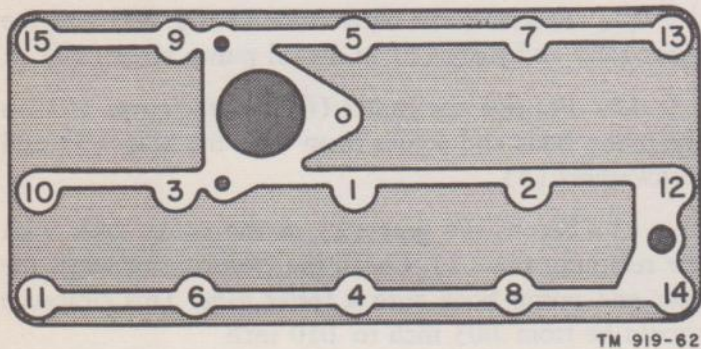

Figure 62. Cylinder head nut tightening sequence.
(1) Position the cylinder head gasket (11) on the block without using sealer or other compound.
(2) Place the cylinder head (10) on the block and install the cylinder head nuts fingertight. Then tighten the nuts with a torque wrench to a tension of 60 to 65 pounds in accordance with the sequence shown in figure 62. Tighten the nuts gradually two or three times to reach the recommended torque value.